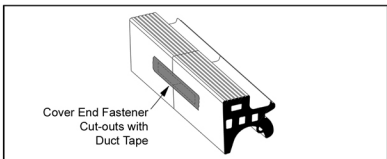

Figure 4
- 4 Cover openings for Sure-Lock end fasteners with duct tape (Fig. 4)